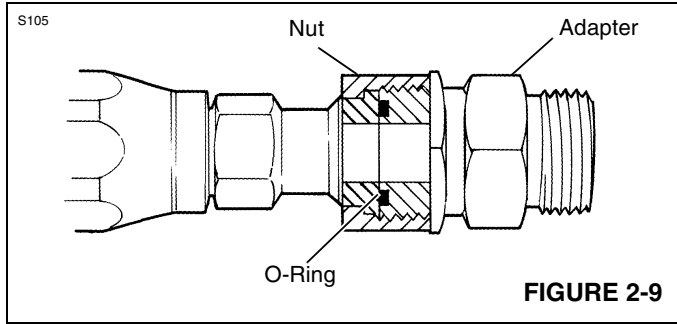

FIGURE 2-9
- Lubricate and install O-ring in adapter groove (Figure 2-9).